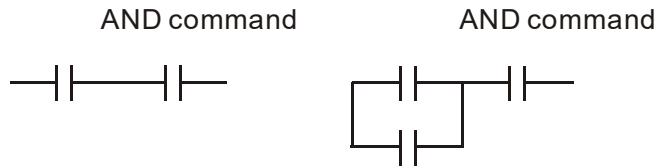

Figure 17-32
**AND (ANI) command:** a series configuration in which a single device is connected with one device or a block. See Figure 17-32.